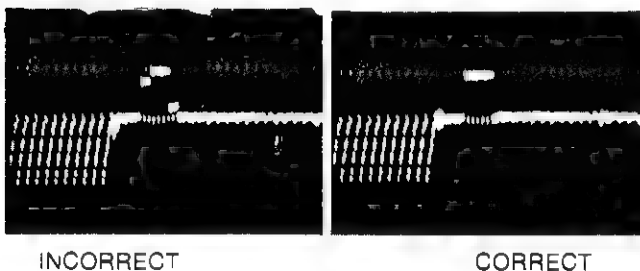

Fig. 24—Vertical Detail Level
4. Adjust R3317 so that the pulse level matches before and after transition from vertical equalizing pulses to vertical sync pulses see Figs. 24 & 28.